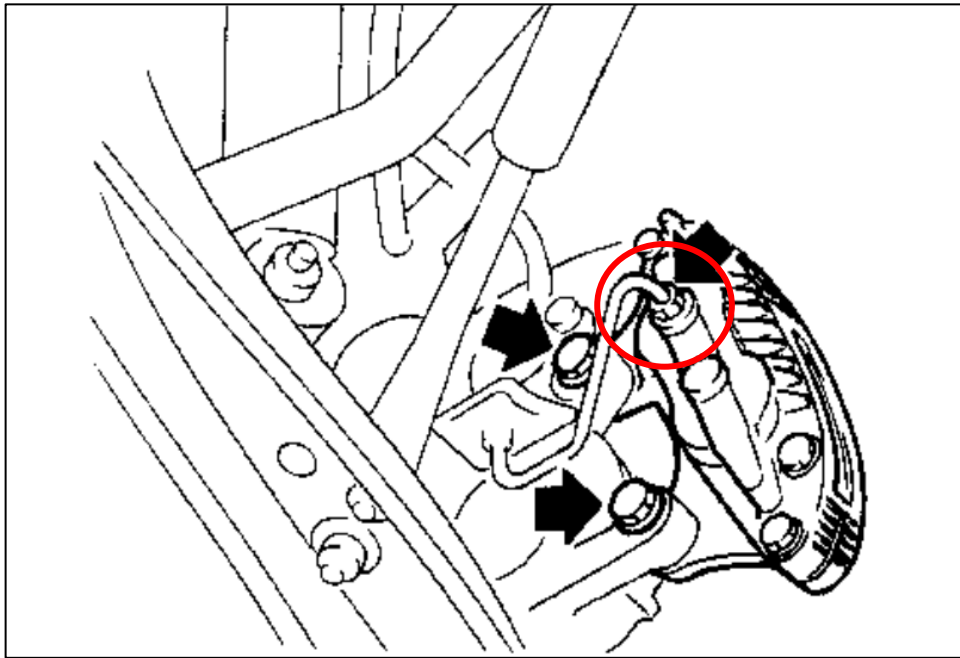

Figure 1
5. Starting on the Driver Side of the vehicle, disconnect the Brake Line from the Caliper. Brake fluid will leak out, so prepare a bucket, rag, or cap to catch leaking fluid. Clean up any spilled Brake Fluid immediately as it will damage painted surfaces. Disconnect the Hardline from the soft line. *Figure 1.*